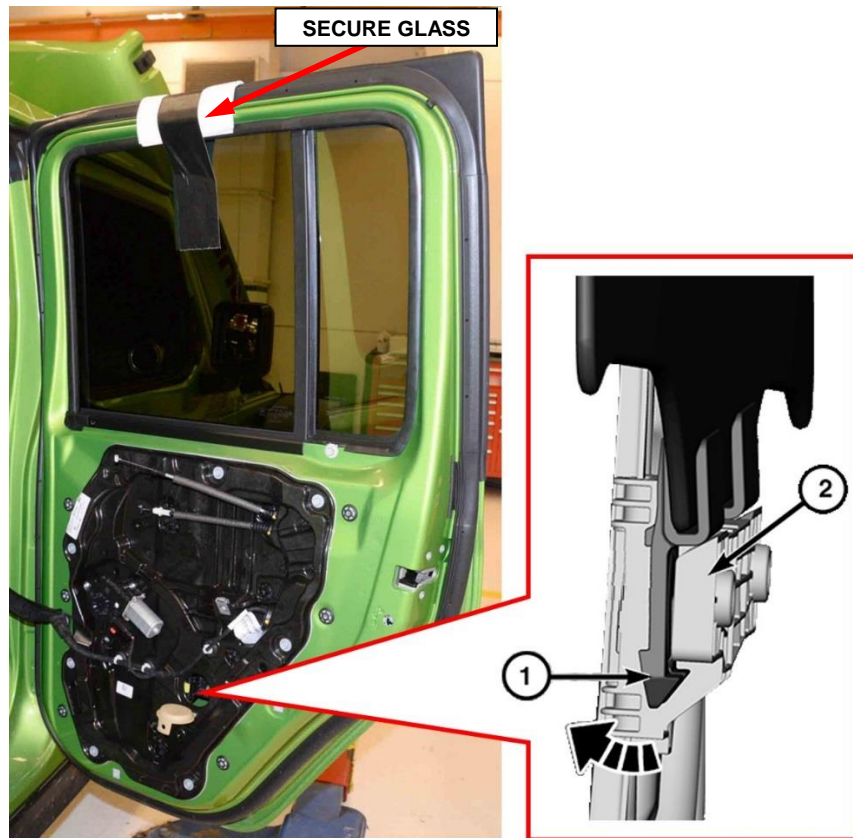

Figure 14 – Window Glass Regulator Lift Plate
25. Using a hook-type tool or equivalent, release the lower window glass tabs (1) from the regulator lift plate (2) (Figure 14).
61. Remove the tape or wedge then position the door window glass and secure it to the window regulator glass slider, making sure the glass lower tabs and regulator lift plate are properly seated together (Figure 14).